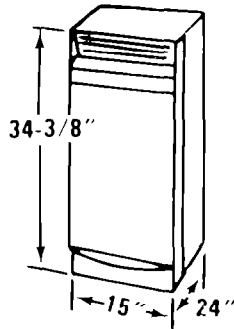

FIGURE 3
2. The compactor's overall dimensions are Height 34 3/8" (87.3 cm), Depth 24" (61 cm) Width 15" (38.1 cm). See Figure 3.